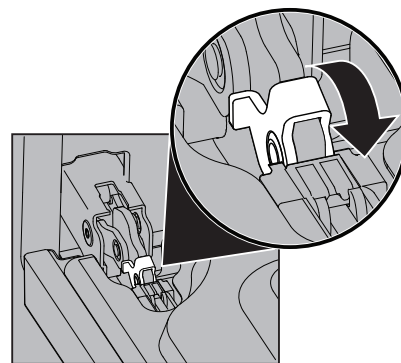

Figure 22: Door hinge lock
2. Pull up the lock located on each hinge support toward front of the oven until the lock stops. You may have to apply a little upward pressure on the lock to pull it up (Figure 22).
4. Push the door hinge locks up toward and into the oven frame on both left and right oven door hinges to the locked position (Figure 22).